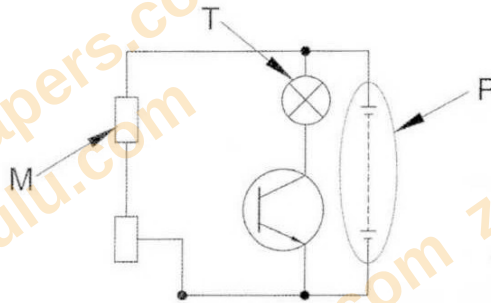

Figure 6
- 21** Figure 6 shows a simple circuit.